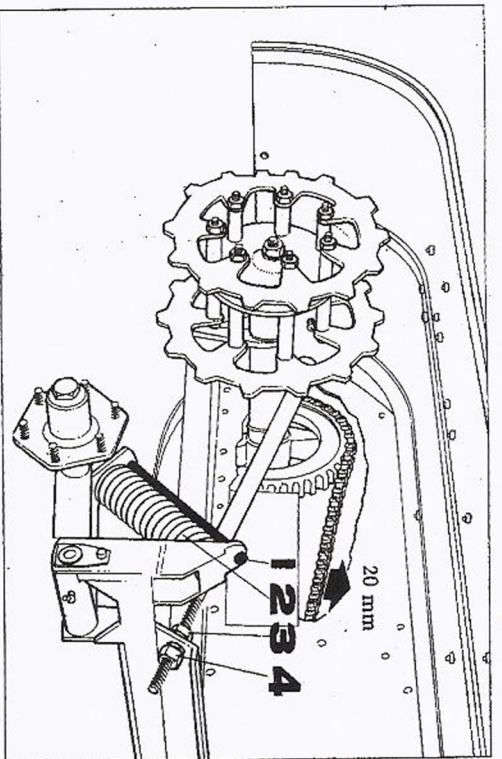

Fig. 16
1. Mount the black tightening bolt 1, which is placed in the tool box, in the holes over the spring 2 behind the front wheel, fig. 16.
Check the tension of the drive chains now and then, and after every 50 hours running. If the chains are insufficiently tensioned this can result in jerky running, particularly when travelling downhill. The chain tension should be checked on the slack part of the chain. The upper part of one of the chains can be tightened that of the other chains slack. This depends on the direction in which the vehicle has been turned immediately before stopping. When correctly tensioned, it should be possible to lift the middle of the chain about 2 cm (3/4"). The chains are tensioned with the nuts 3, fig. 16, on the either side of the vehicle body. Note that the vehicle should be driven straight forward at least 10 metres (33 ft.) on level ground before the chain tension is adjusted.